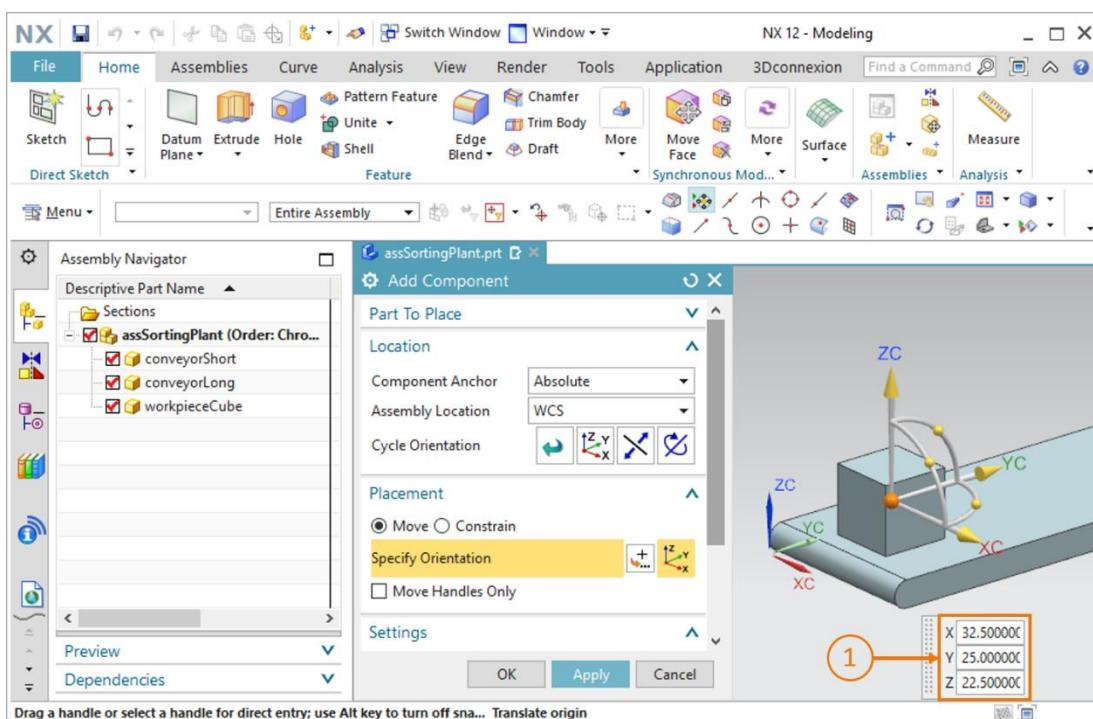

Figure 58: Positioning the "workpieceCube" model on the conveyor belt
- Position the component using the following space coordinates, as shown in Figure 58, step 1: